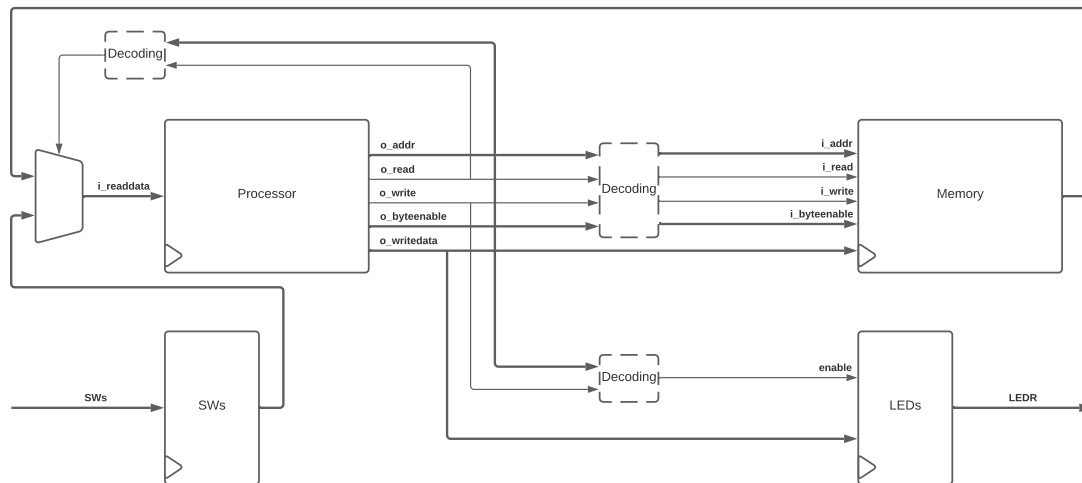

Figure 1: Part I Block Diagram
Figure 1 shows a block diagram of the system and its connections, omitting all the clock signals and the processor instruction interface. The processor can write to two devices (memory, and a register feeding the 8 red LEDs) and can read from two devices (memory, and a register capturing the 8 switches). This is decided based on the address emitted by the processor, and is performed by the blocks marked “*decoding*” in the figure, which you will need to create.
2. Implement the rest of the system shown in Figure 1, and using the memory map given in Table 1. Note that while there are address ranges assigned to the LEDs and switches, only the first address of each is actually used to read from or write to the switches and LEDs.